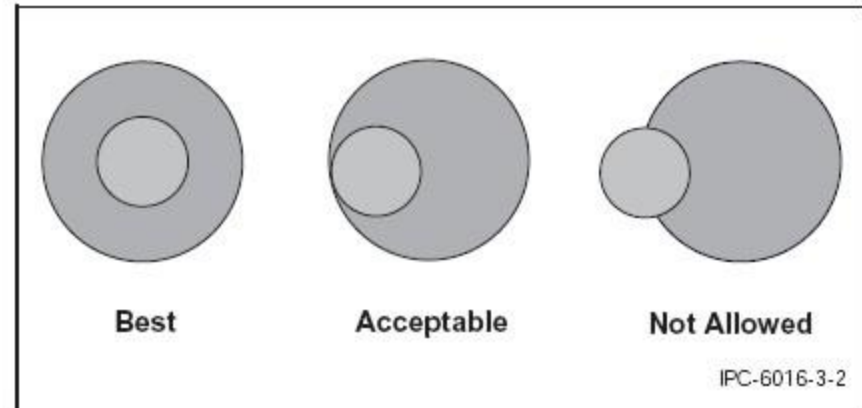

Figure 3-2 Capture Land Registration
3.4.3.1 Capture Land to Microvia Capture lands shall have tangency at a minimum. Breakout is not allowed, unless the design and procurement documentation specify (i.e., landless microvia). See Figure 3-2.